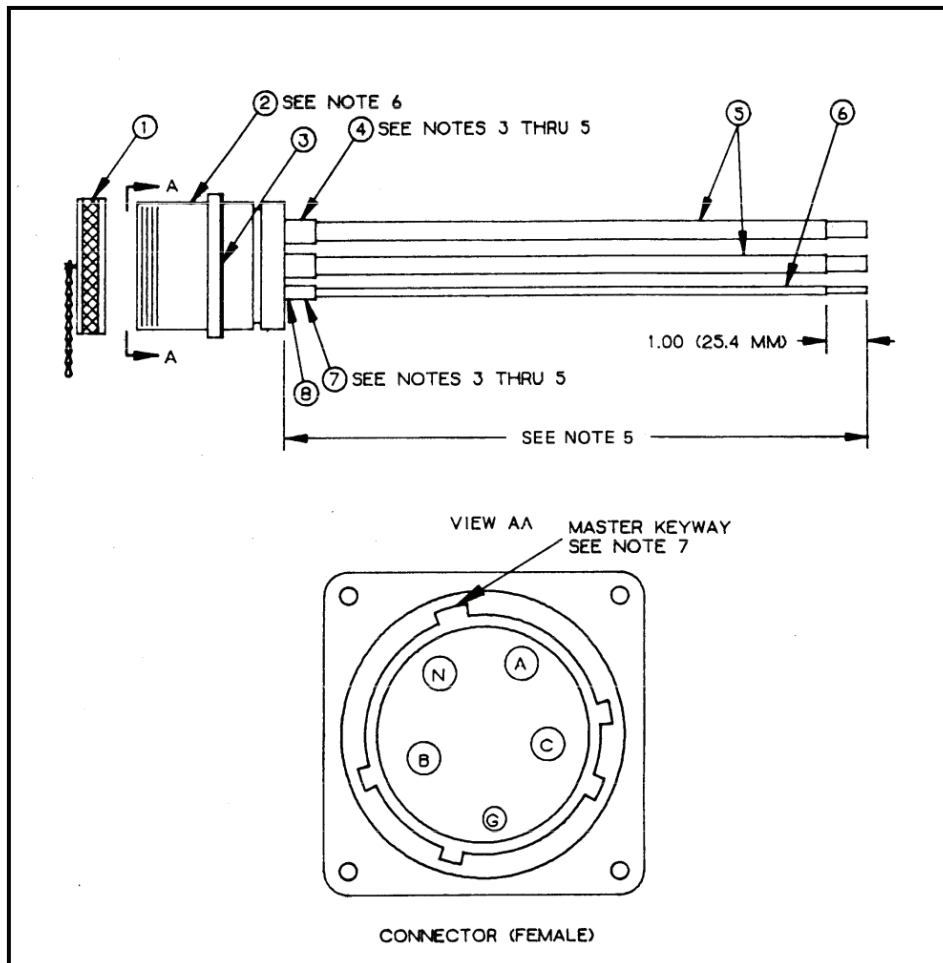

Figure F-30. PDISE 40/60-Amp, Output Connector Assembly.
Component Legend for Figure F-30
c. Electrical connector (Figure F-30, Item 2) is furnished with the following: